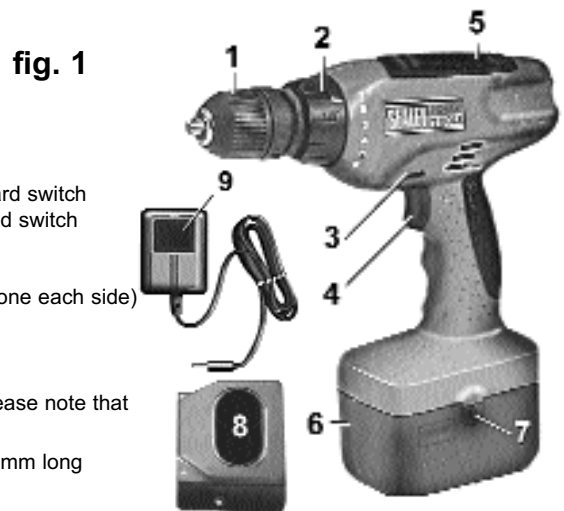

fig. 1
- 3.1.1. To remove the battery pack from the drill, depress the two side clips (fig.1 item 7). Do not touch the metal battery terminals.
- 3. Check the drill to ensure the direction switch (fig.1 item 3) is in the mid (lock) position.
- 5. The speed of the drill is controlled by the electronic variable speed switch (fig.1 item 4). After moving direction switch to 'forward' (or 'reverse') press the speed switch gently for a slow speed and progressively increase the pressure on the switch to produce correspondingly higher speeds (try before starting to drill).
Check to confirm the turning direction is correct (change by direction switch, fig.1 item 3).
If the drill becomes stuck, release the switch and place the chuck in reverse by pressing the direction switch to the other side (fig.1 item 3).